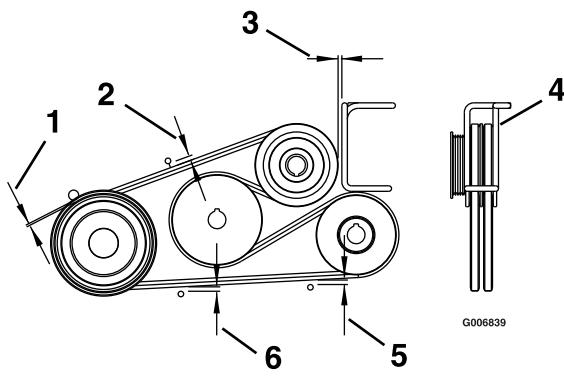

Figure 54
4. Adjust belt guides as shown in Figure 54.